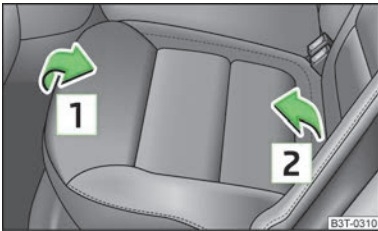

Fig. 61
- Pull up the seat cushion in the direction of the arrow **1** » Fig. 61 and fold forwards in the direction of the arrow **2**.